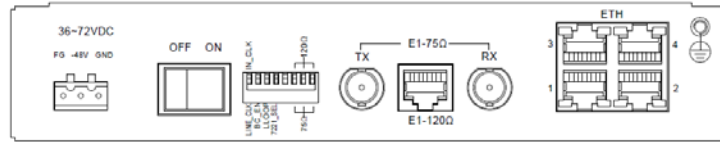

Figure 4 DC input rear panel of 4Eth-1E1 bridge
•The DC input rear panel of 4Eth-1E1 Bridge is shown in figure 4.